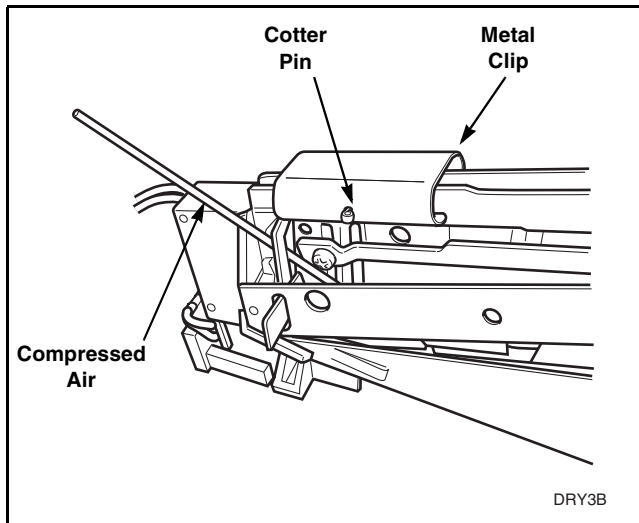

Figure 12
- c. If lint is preventing coins from rolling through coin drop, blow compressed air through coin entry and along the side of the coin drop. Refer to *Figure 12*.
- Remove cotter pin from top of drop. Refer to *Figure 12*. Save pin for reinstallation when cleaning is complete.
- Move metal clip closer to sensor so that it comes off frame. Refer to *Figure 12*.